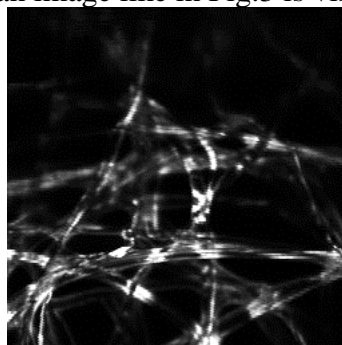

Figure3: Image of Fluorescent sample to efficiently test a miniscope before, for instance, in -vivo imaging.
Note! A window overview should appear as in Fig. 3 of Overview Documents (dependent on the user configuration selected)
Step2. Repeat Steps 19-24 until an image like in Fig.3 is visualized